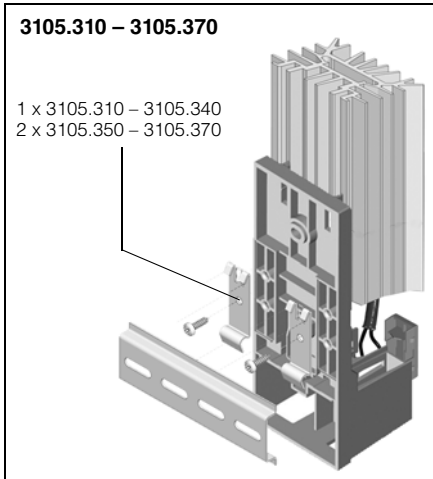

Fig. 2: Snap-type fastening onto a 35 mm support rail DIN EN 50 022
Assembly parts (see fig. 2)
1. Snap-type fastening onto a 35 mm support rail DIN EN 50 022 (fig. 2).